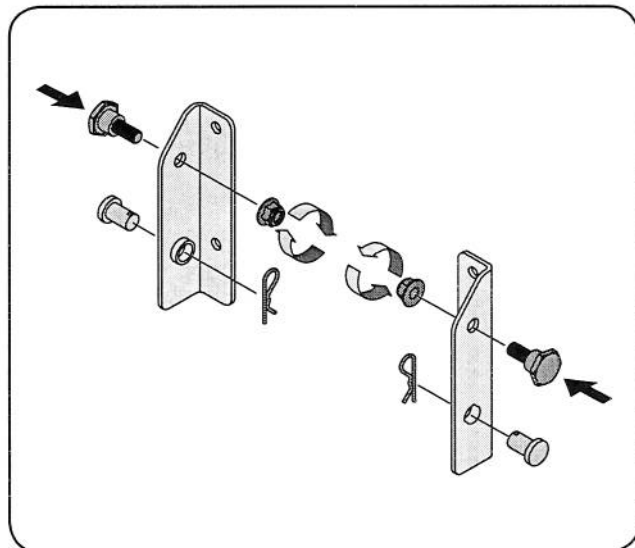

Figure 4-1
1. Install a shoulder bolt from your hardware pack on each bracket, securing them with flange lock nuts also included in the hardware pack. Refer to Fig. 4-1.
2. Insert the clevis pins from your hardware pack on each bracket, securing them with clip pins also included in the hardware pack. Refer to Fig. 4-1.